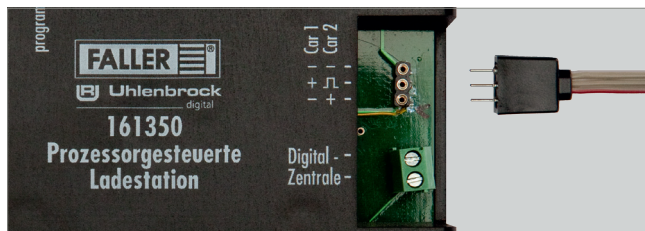

Fig. 4: Connecting the charging cable to the charging unit
- Insert the plug located at one end of the charging cable into the socket of the charging unit, see Fig. 4.